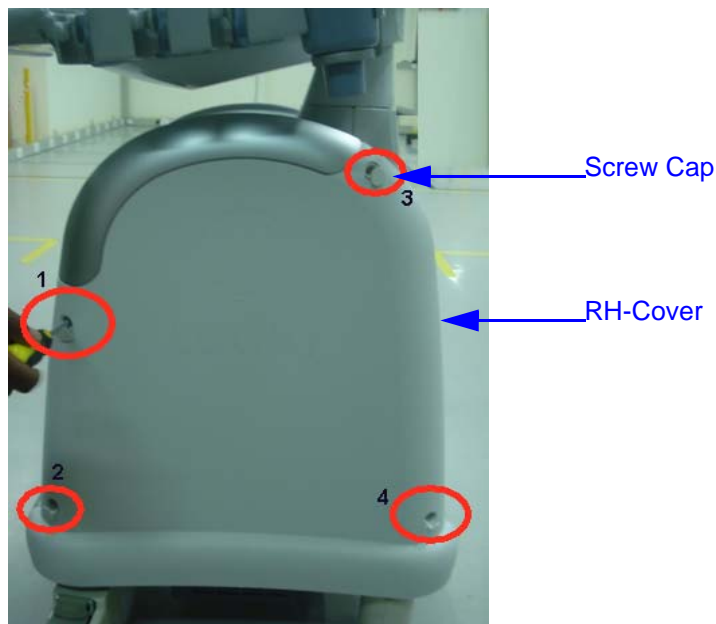

Figure 8-21 RH-side cover
Refer Figure 8-21 on page 8-24
2) Remove the RH-side cover from the system. **Refer Figure 8-21 on page 8-24**